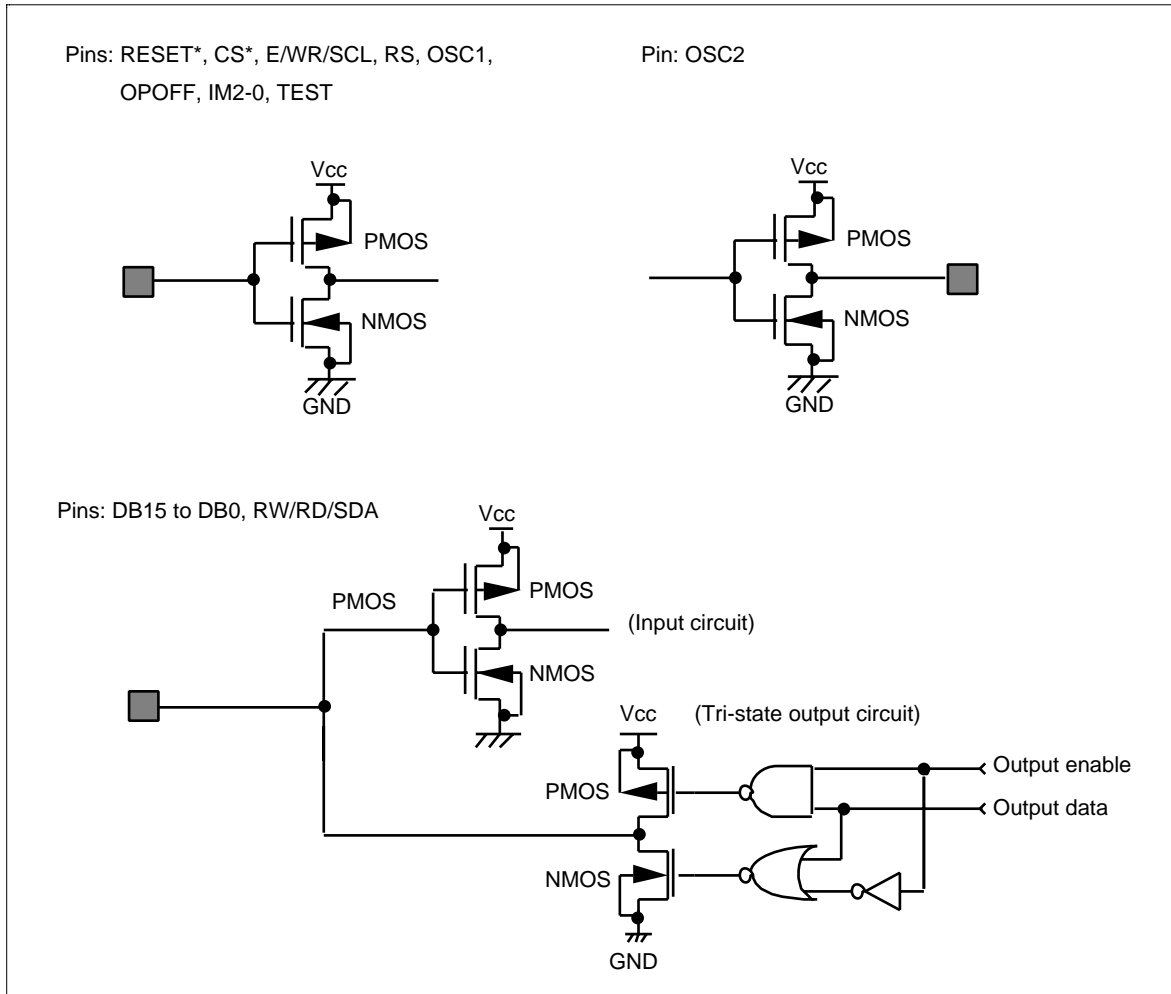

Figure 59 I/O Pin Configuration
2. The following three circuits are I/O pin configurations (figure 59).